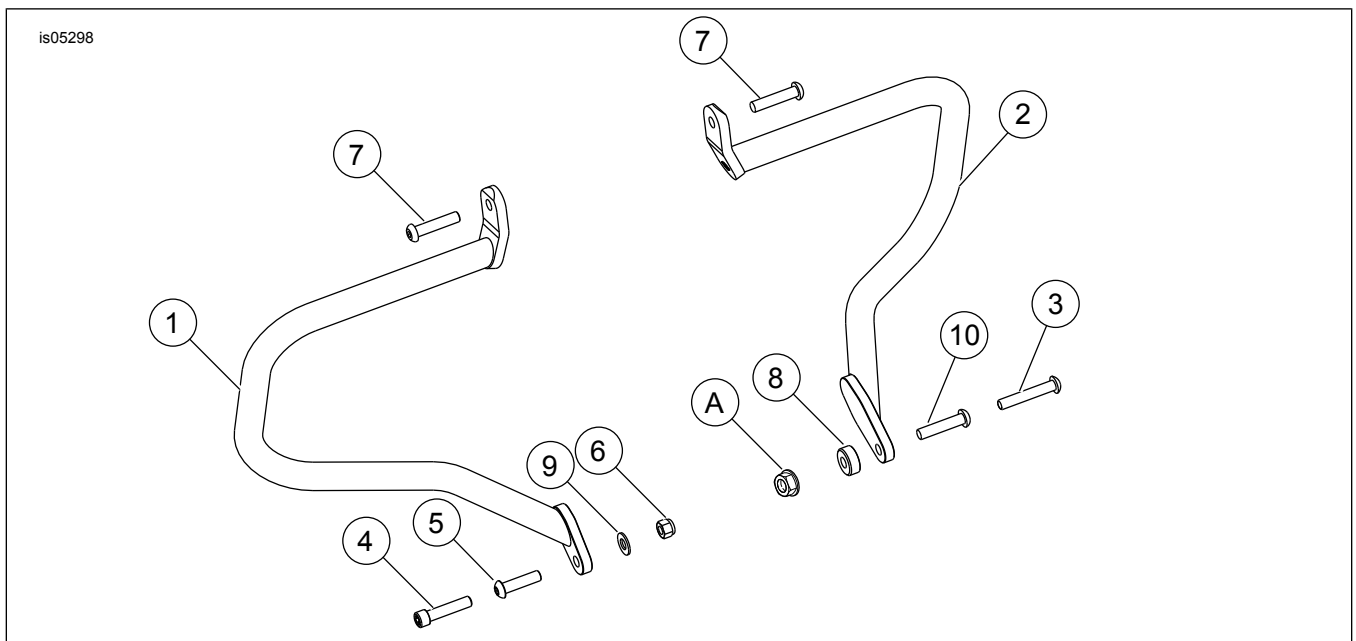

Figure 7. Service Parts: Saddlebag Guard Kit
See Figure 7 and Table 1.
1. See Figure 7. Install upper screw (7) in the fender support. Tighten screw finger-tight.
2. Install the lower screw (4 or 5) with the saddlebag guard, washer (9) and locknut (6) inside the frame. Tighten screw finger-tight.
2. See Figure 7. **For 2005-2006 Models:** Install lower screw (3) through the saddlebag guard, saddlebag guard spacer (8), footpeg support and the frame. Tighten to 41 N·m (30 ft-lbs). **For 2007 and later Models:** Install lower screw (10) through the saddlebag guard, footpeg support and the frame. Tighten to 41 N·m (30 ft-lbs).